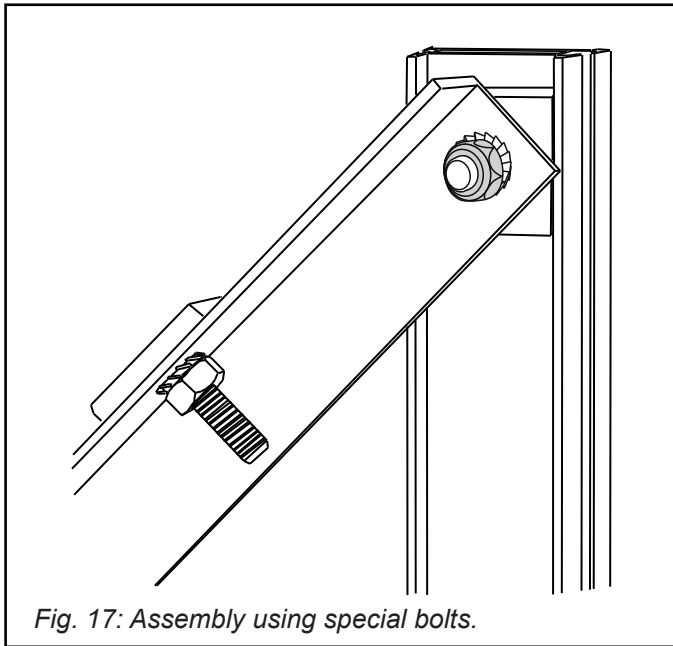

Fig. 17: Assembly using special bolts.
- Assemble the triangular supports that come partially screwed together (Fig. 17). Fix the loose support ends with a bolt (Fig. 17) and tighten all connections.